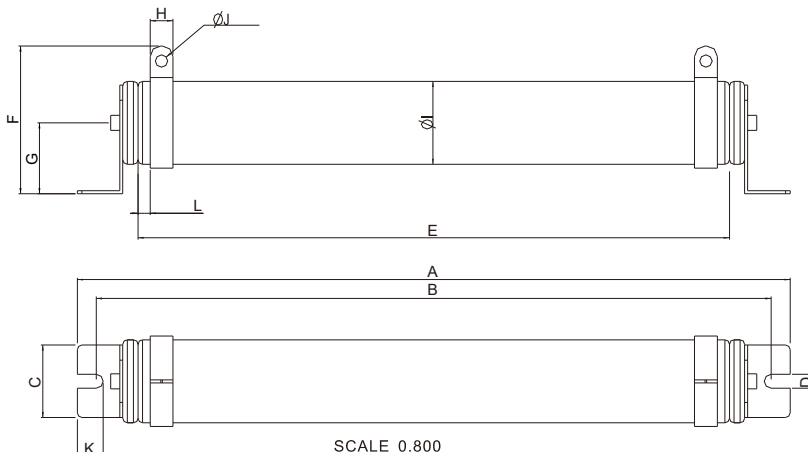

Figure 7-1
(1) Wire wound resistors: For 1000W and above, see the following appearance of wire wound resistor (Figure 7-1) and its model and specification comparison table (Table 7-2) for details.